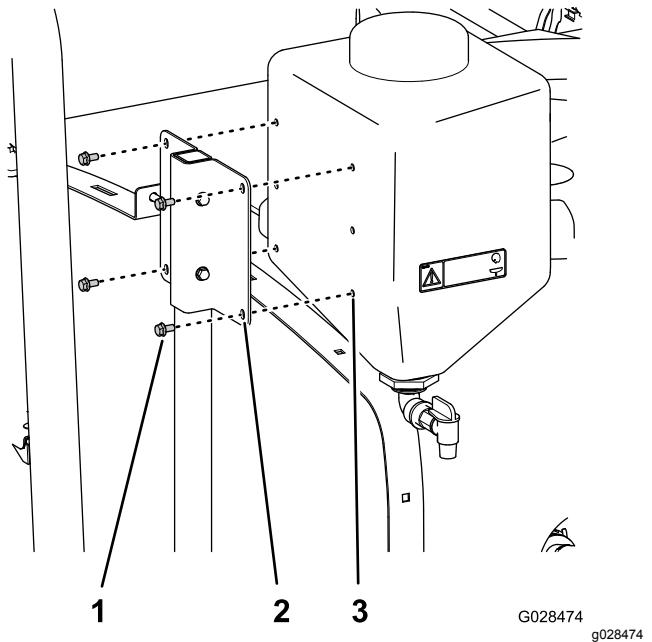

Figure 37
5. Align the threaded inserts in the fresh water tank with the holes in the fresh-water tank mount (Figure 37).
6. Secure the fresh-water tank to the mount (Figure 37) with 4 flanged-head bolt (5/16 x 5/8 inch).